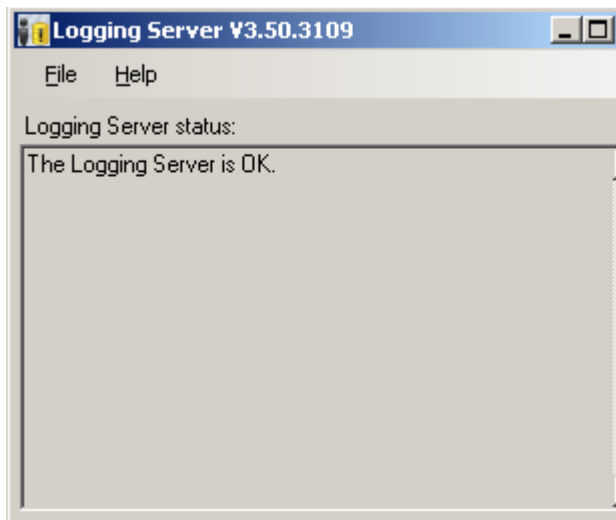

figure 56.4: Main window
- 1 Double click on the *Logging Server* icon (see figure 56.2). A screen similar to the one in figure 56.4 appears.